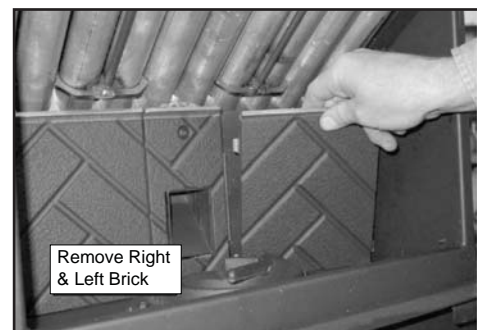

Figure 37.3
3. The top baffle must be removed before you can remove the right and left brick. Remove the right brick by holding top lip of brick and lifting up, then push outside edge back. Slide brick to the right until it is flush with the firebox. Rotate the inside edge of the brick forward and remove brick. Repeat for left brick. **Figure 37.3.**